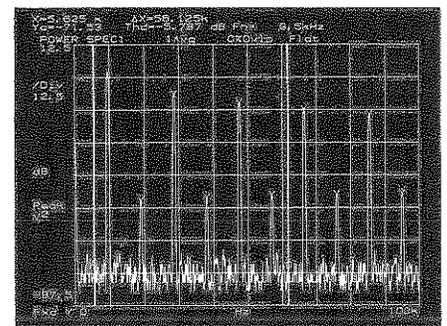

Figure 5-4
- Press the **SPCL MARKER** key. Select the **HMNC ON** softkey, then the **THD** softkey. The total harmonic distortion value will be displayed as shown in Figure 5-4.